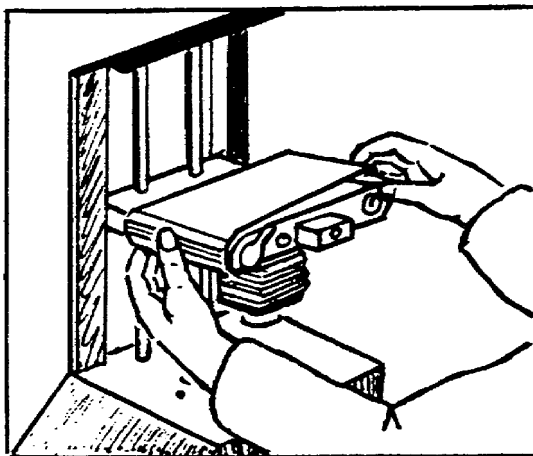

Figure 1-21. Replace Back Cover.
h. After having insured that the film is properly threaded in the camera, take the camera back cover and reinsert it, left side first, into the camera, making sure that the cover sits correctly in the grooves (fig 1-21). Holding it in place with the left hand, carefully close it with the right hand. Make sure that the cover is COMPLETELY in place on the right side before closing the camera case latch, otherwise the camera will NOT be light tight and the film will become fogged from the outside.